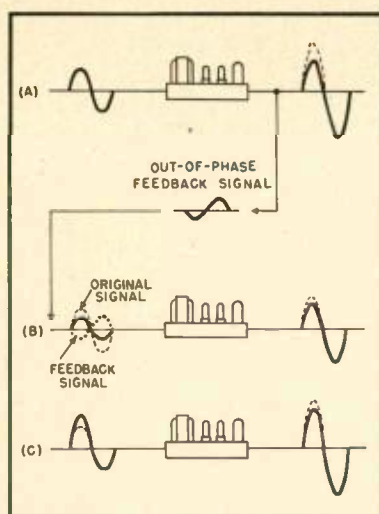

Fig. 2. How negative feedback corrects for distortion. The steps illustrated take place practically instantaneously.
The amplifier and power supply, illustrated in Figs. 2 and 3, were constructed on the same 13  $\times$  17  $\times$  3-in. alu-
are, so to speak, pictorially sited together in intimate contiguity as of houses in, say, an Italian mountainside village. The arrangement, in fact, places what is in this case the most used article—the tape recorder—above the comfortable height for handling (which should be, as broached in this department last year, on a level with your bent elbow, neither much lower nor much higher). But let us observe the amenities of open-mindedness and hold ourselves to a quite "linear" reaction to this departure from the rules of operational convenience. For, though our audiophile's audio-pile may run counter to the tenets of the counter-top school of hi-fi component concealment, we shall have to concede that reader Crofford's array of cases and cabinets holds more than we would ordinarily permit the first casual, jaundiced glance of our interior-decoration indoctrinated eye to perceive. See the block diagram, Fig. 2.
Fig 1 (left). No wallflowers are these vociferous hi-fi furnishings. Line-up shows Klipschorn main speaker system; Ampex electronics assembly in case over separate speaker for TV, with mechanical assembly in case atop TV cabinet. At right is Marantz Audio Console over phono and radio cabinet which also houses main power amplifier. Below it is the REL Precedent FM tuner. Fig. 2 (right). Chassis of amplifier and separate power supply in pre-tube-mounting stage. Tube sockets are Vectors; wiring on underside is cabled; transformers are completely potted.
Figure 2 illustrates the automatic correction applied by negative feedback. The steps illustrated in sequence show the transmission of the signal through the amplifier and back through the feedback circuit; the time taken by each step is so small that it cannot be measured by ordinary methods, and the process may be considered instantaneous.
The distorted amplification of a sine wave is illustrated in (A) of Fig. 2. Part of the distorted signal is tapped from the amplifier output and fed back to the input in such a way that the phase is exactly opposite, as illustrated in (B). Notice that the feedback signal is fed back to a point before that at which the distortion was generated, so that the distorted signal is mixed out of phase with an undistorted signal.
Two things must happen. The original input signal will be reduced in strength, and a corrective enlargement of the first half-cycle will appear in its waveform. It is as though the circuit knows what the amplifier is going to do to the signal's positive peak and sends in the signal forewarned and forearmed. Where the defective amplifier will not furnish enough gain, at the positive signal peak, the signal itself is pre-compensated by having too much voltage relative to the negative half-cycle. The output signal shown in (B) of Fig. 2 is reduced in power but has a lower percentage of distortion.
It is important to know that while gain is sacrificed by negative feedback, amplifier *power capability* is not. The third step in the feedback process is illustrated in (C) of Fig. 2. The cor-
The problem of recording amplifiers is solved conventionally by connecting the recording head to a voltage amplifier through a high resistance as in Fig. 2. However, this has the disadvantage that over the greater part of the frequency range only a small fraction of the available output amplitude is used in the recording head, the rest being uselessly dissipated in the series resistor  $R$ . In the recording amplifier described in this article and shown in basic form in Fig. 3, the load is directly connected to the anode of the output tube, thereby
Fig. 2. Usual method of operation is to use a medium-impedance amplifier with a large series resistor to achieve constant recording-head current. This is wasteful.